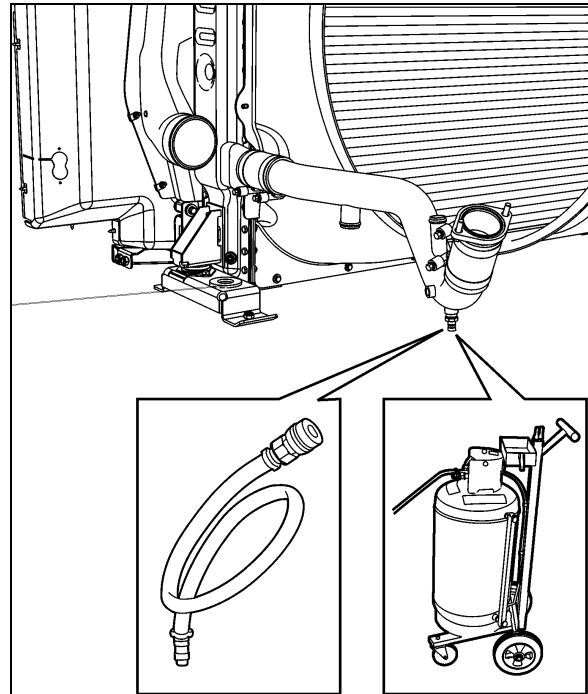

FIGURE 16: EXTRACTING COOLANT
5. Connect coolant extractor (Figure 16). Use coolant extractor to drain the coolant from the engine. An alternate method is to drain the coolant into a suitable container using the drain hose.
4. Connect coolant extractor (Figure 16). Use coolant extractor to drain the coolant from the engine. An alternate method is to drain the coolant into a suitable container using the drain hose.